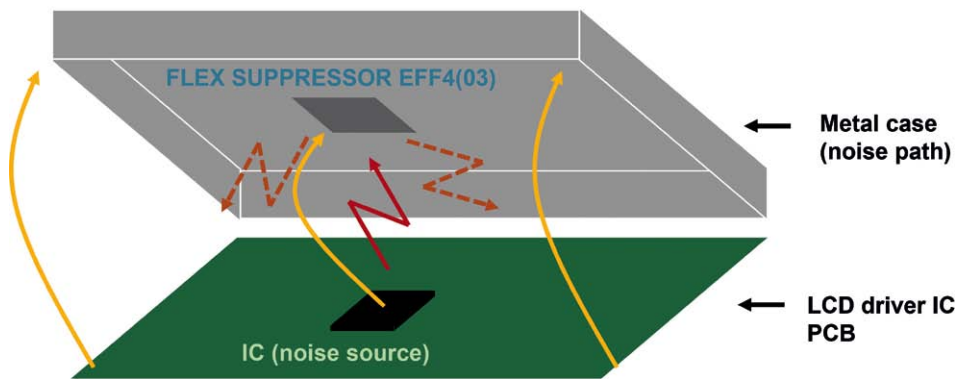

Figure 2: The EMI emissions of the IC are reduced by placing a piece of Flex Suppressor (e.g. EFF4(039)) directly above the interference source.
An application scenario is shown in Fig. 2. In this case, the integrated circuit (IC) is the